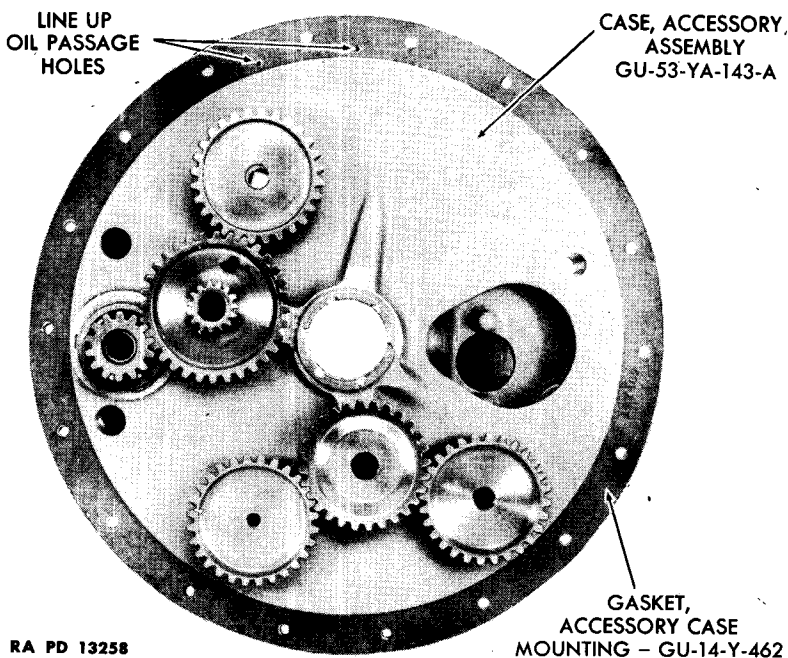

Figure 95—Line Up Oil Holes in Gasket and Accessory Case
b. Procedure. Install a new gasket on the accessory case, being sure that the oil holes in the accessory case mounting gasket GU-14-Y-462 line up with those in the accessory case (fig. 95). Turn crankshaft counterclockwise until the pointer is at top center on the compression stroke. Turn the fuel cam and fuel cam drive gear until the eccentric and the lock nut with the calibrated marks are slightly to the right at the top. With one man holding the throttle shaft control in position (fig. 94), a second man slides the accessory case over the throttle shaft and onto the studs of the crankcase. Be sure that the throttle control shaft does not disengage with the segment gear during the procedure. Install two nuts with plain washers on the studs, drawing them up tight enough to hold the accessory case in position until the engine is fuel-timed. (NOTE: The gears in the accessory case must be engaged with the starter shaft gear and the fuel cam drive gear, before accessory case will go into position.)